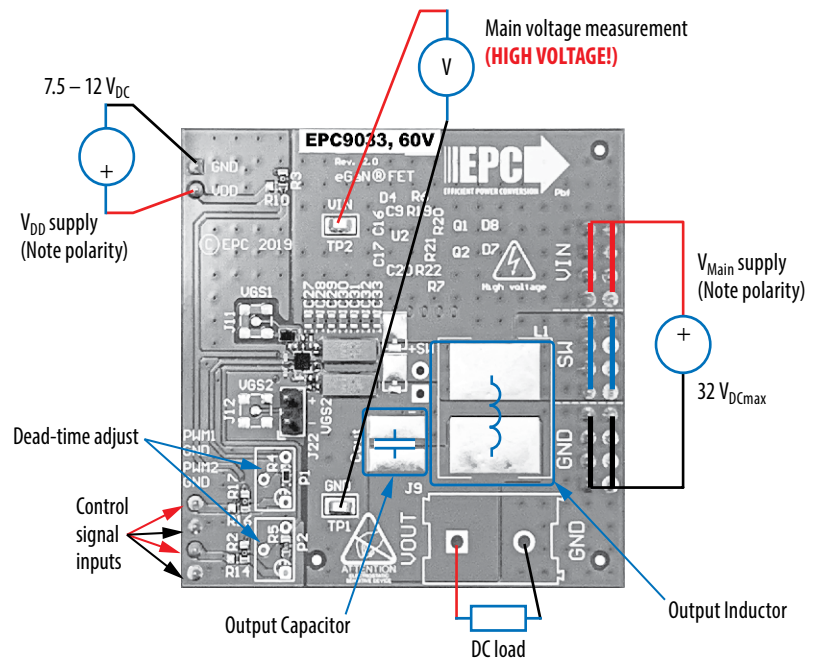
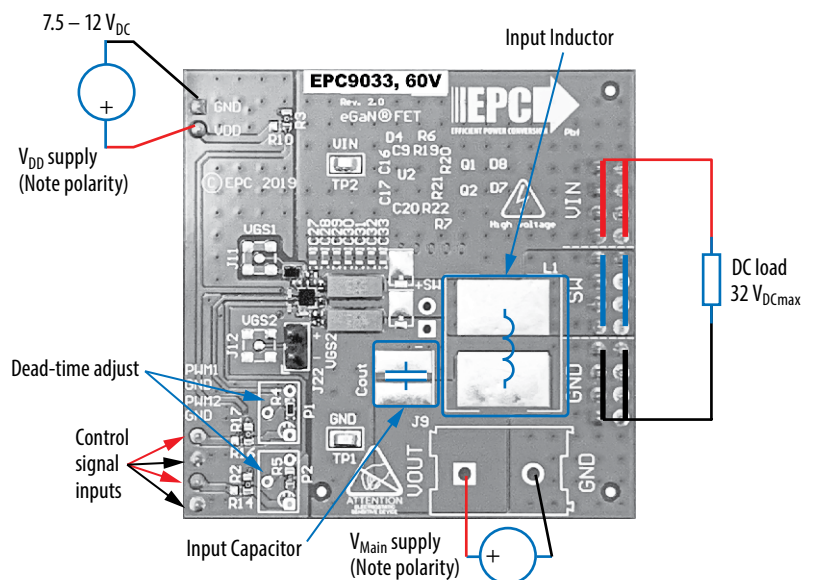

Figure 2: Buck configuration
Figure 3: Boost configuration
The half bridge development board EPC9033 is easy to set up as buck or boost converter. Refer to figure 2 for buck converter configuration and measurement setup, and figure 3 for boost converter setup, and follow the procedure below:
2. With power off, connect the switch node (SW) of the half bridge to your circuit as required (half bridge configuration). Or use the provided pads for inductor (L_1) and output capacitors (C_{out}), as shown in figure 2 with a DC load connected across V_{OUT} and GND.
1. The inductor (L_1) and input capacitors (labeled as C_{out}) can either be soldered onto the board, as shown in figure 3, or provided off board. Anti-parallel diodes can also be installed using the additional pads on the right side of the EPC2020 FETs.